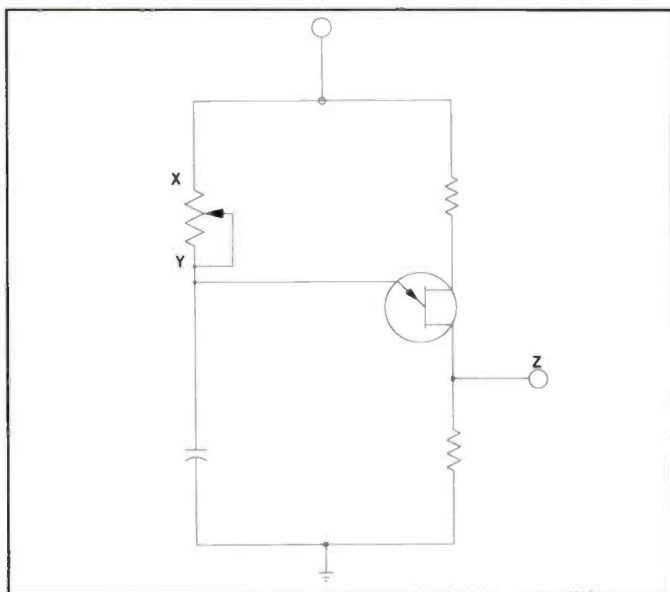
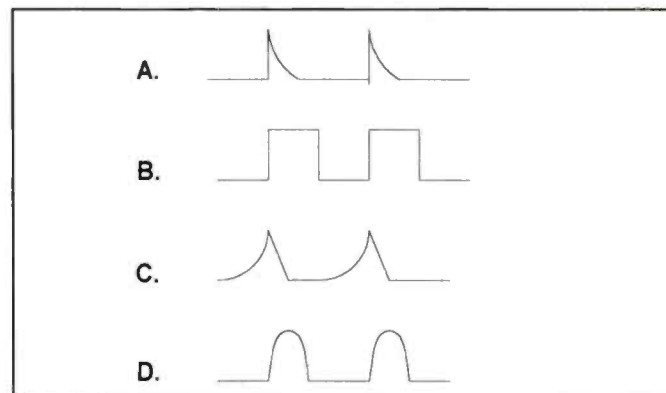

Figure 1.
Figure 2.
1. Refer to the relaxation oscillator in Figure 1. To decrease the output frequency you should move the arm of R
2. Which of the waveforms in Figure 2 should you get at point Z in Figure 1?